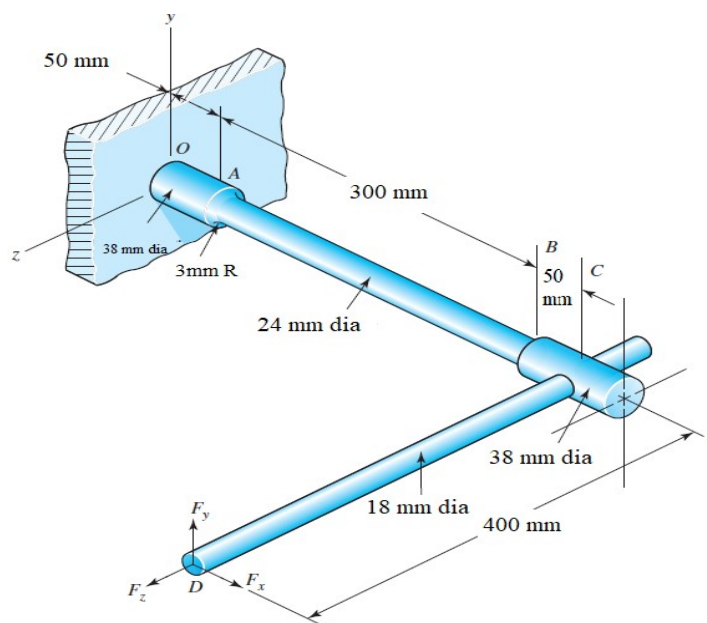
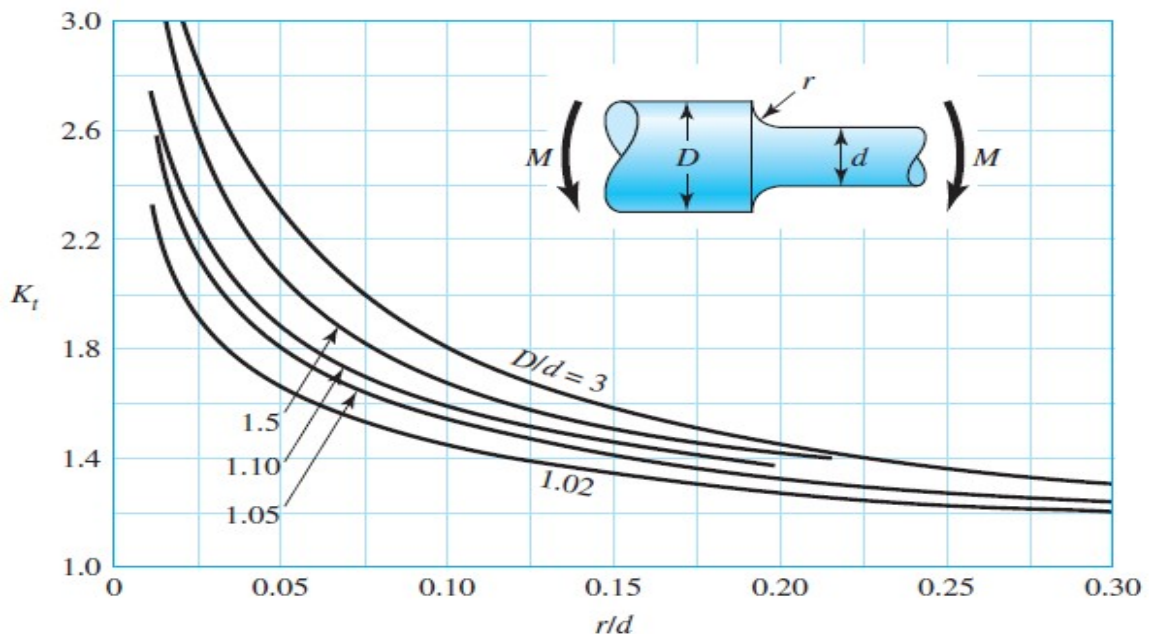

Fig: 1
Fig.3
3. A cantilevered handle as shown in figure 3 is made of plain carbon steel 50C4 having Yield stress 460 MPa, Ultimate tensile stress 660 MPa and percentage elongation 17%. The handle is subjected to a loading of $F_x=0$ N, $F_y=800$ N and $F_z=0$ N. Neglecting stress concentration factor, calculate factor of safety which might have been considered in designing the rod shown in Fig.1. Consider Maximum Shear Stress Theory in solving this problem.
To solve this problem refer the graph shown in Fig.3 bellow.
- (i) endurance limit at the fillet section; and (ii) diameter d of the beam for infinite life. To solve this problem graph shown in Fig.3 may be referred. Consider here 'Surface Finish Factor' as 0.78, 'Size Factor' as 0.85, and 'Reliability Factor' as 0.897.